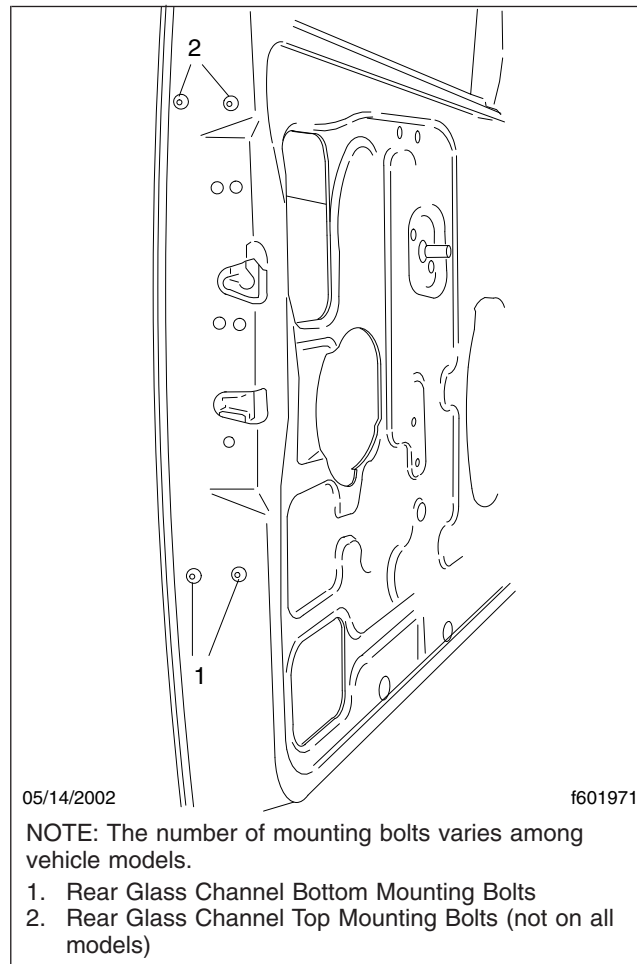

Fig. 13, Rear Window Channel Mounting
20. Remove the rear window channel by removing the mounting bolts—there could be either two or four. See Fig. 13. Slide the window guide out of one of the access holes in the door.
2. Slide the rear window channel in through the access hole in the door, then attach it to the door with the mounting bolts. Torque to 60 lbf-in (678 N-cm). See Fig. 13.